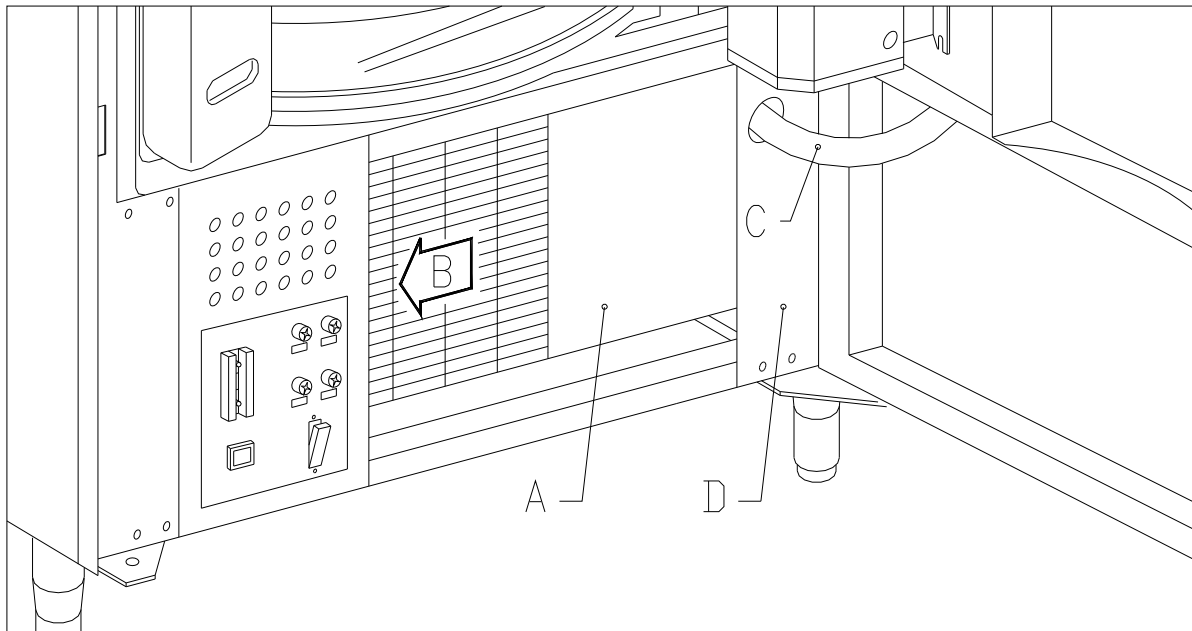

FIG. 18
- Remove the front protection sheet from the refrigeration unit pos. A FIG. 18 by loosening the fastening screws and handwheels;
- Disconnect the feed connector of the refrigeration unit pos. B FIG. 18 (on the right hand side of the panel);
- Disconnect the feeler wire of the refrigeration unit pos. C FIG. 18.
- Remove the bottom right hand angle element pos. D FIG. 18 by loosening the screws